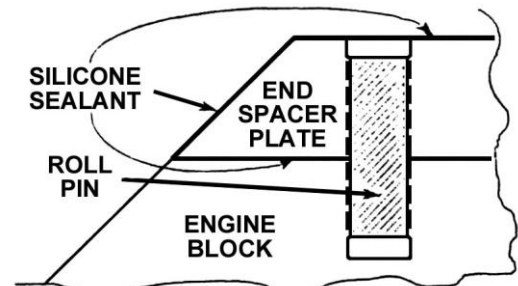

FIGURE 2
- C. Put silicone sealer, or equivalent, at outer ends of small end spacer plates in sufficient quantity to seal between large, side plates and small, end spacer plates. (See Figure 2).
- F. Run bead of silicone sealer, or equivalent, along each of the small, end spacer plates. (See Figure 2).